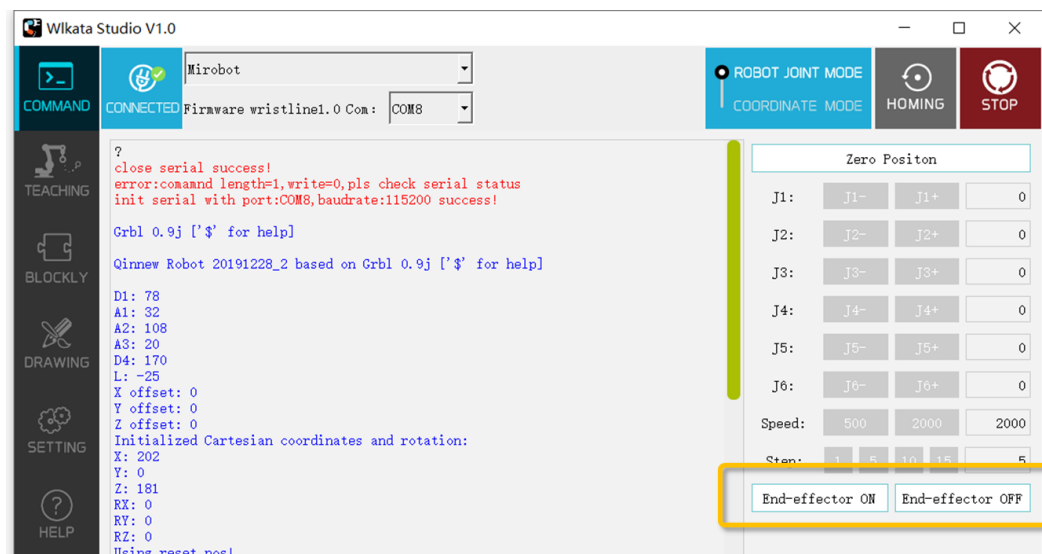

Figure 3.31 Controlling the gripper in the COMMAND function
- In the COMMAND page, control the gripper by click the **End-effect on** and **End-effector off** buttons on the right panel. Figure 3.31